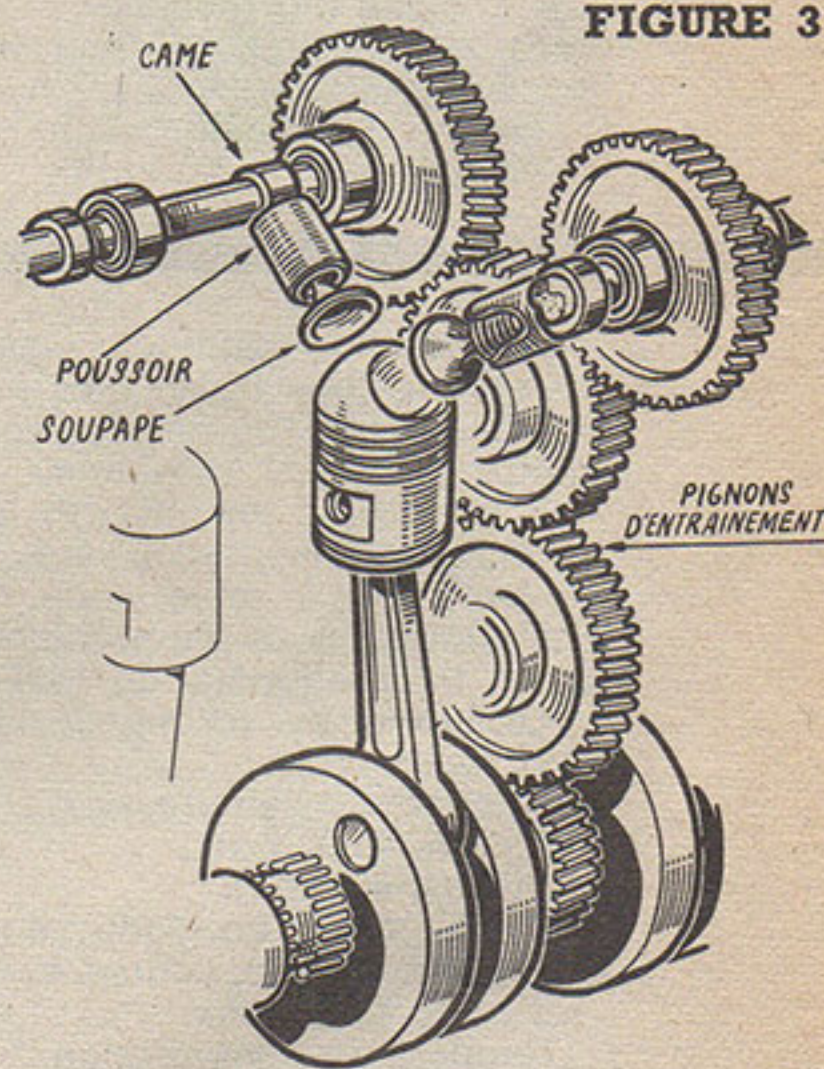

FIGURE 3
c) COMMANDE PAR DOUBLE ARBRE A CAMES EN TÊTE OU DOUBLE A.C.T. (Fig. 3).